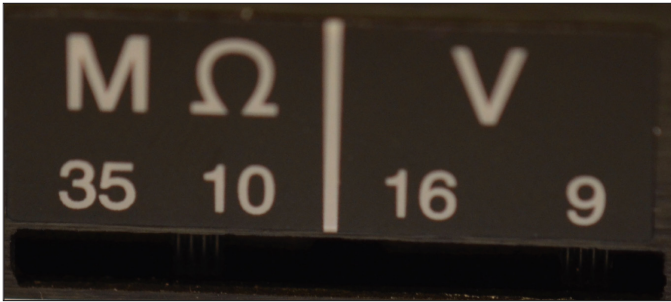

Figure 3. Resistance and test voltage switches
- a) Select the desired resistance and voltage limit by moving the appropriate slide switch (with screwdriver) on the side of the Workstation Monitor to the desired position (Figure 3).